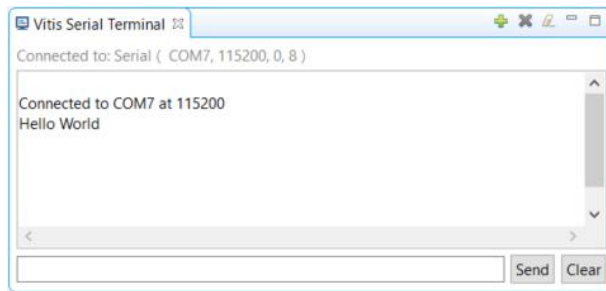

Figure 36
10. Check the **Vitis Serial Terminal** (Figure 36)